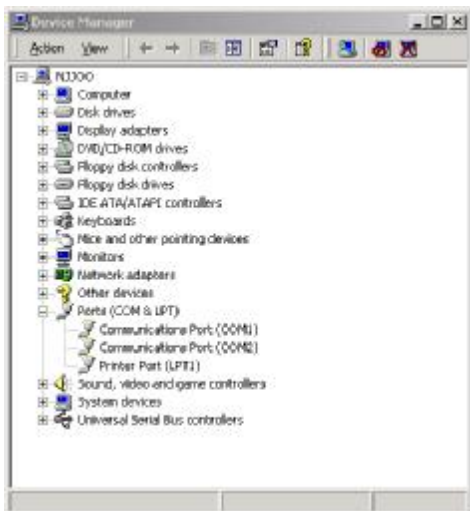

figure 3
- 1) Open the control panel of computer to click “Device Manager”, then double-click COM1(as figure 3).